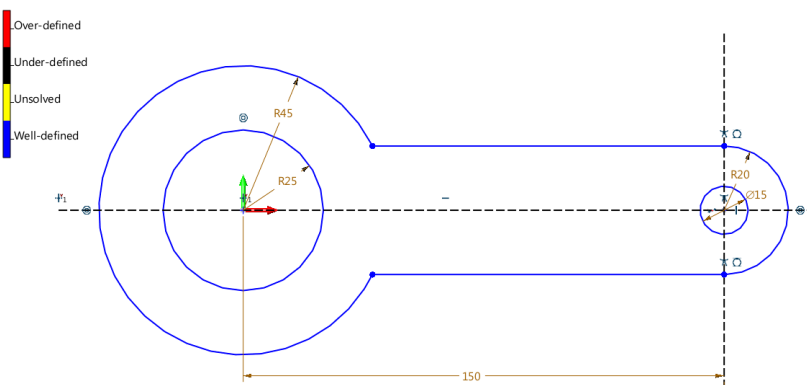

Figure 132 Add Two Horizontal Lines
STEP 06 Draw two horizontal lines that are tangent to the circle with a radius of 20 mm. Then, trim the sketch with **One Touch Trim**. The result should be as Figure 132 shows.